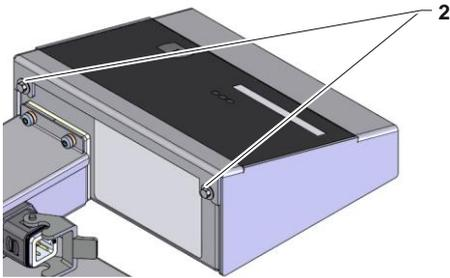

Fig. 5: Rear side of the evaluation unit
- Tighten screws (Label 2 → Fig. 5).